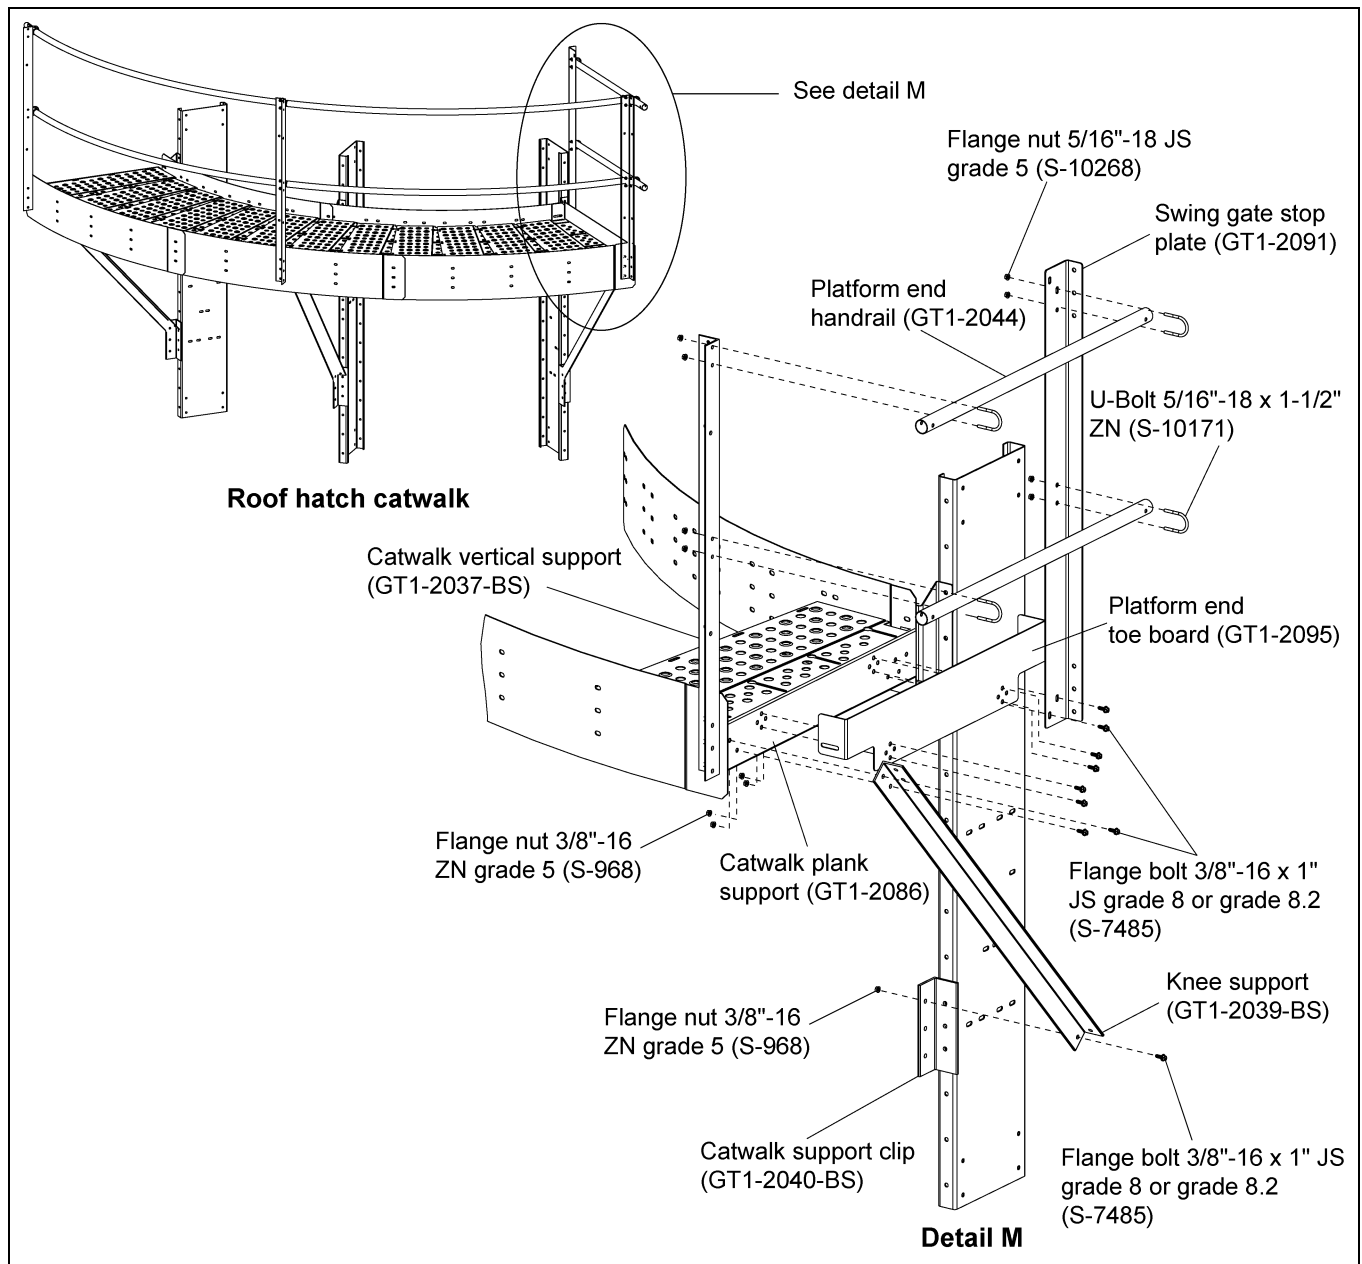

Figure 6W Roof Hatch Platform End Handrail (GT1-2044) Installation
4. Install the platform end toe board (GT1-2095) and knee support (GT1-2039-BS) to the catwalk plank support (GT1-2086) using 3/8"-16 x 1" JS grade 8 or grade 8.2 bolts (S-7485) and 3/8"-16 ZN grade 5 nuts (S-968). (See Figure 6W.)
7. Install the platform end handrail (GT1-2044) to the catwalk vertical support (GT1-2037-BS) and the swing gate stop plate (GT1-2091) using 5/16"-18 ZN U-bolts (S-10171) and 5/16"-18 JS grade 5 nuts (S-10268). (See Figure 6W.)